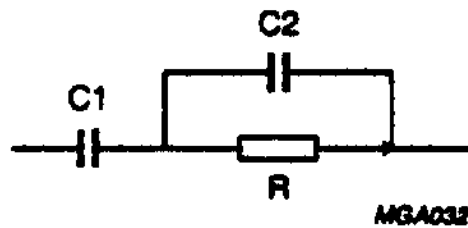

Fig.8 Loop filter.
- $I_{CP}$  = charge-pump current (A)
- C1 and C2 = loop filter capacitors (see Fig.8)